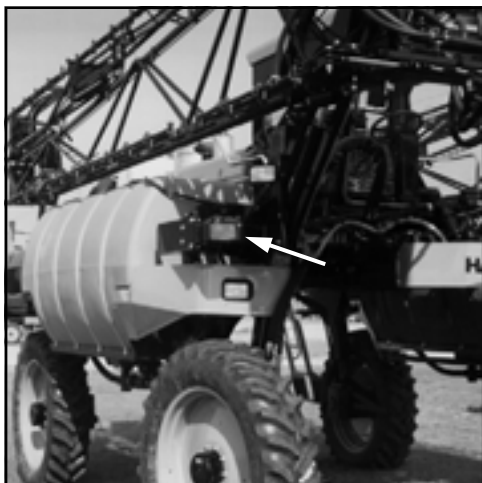
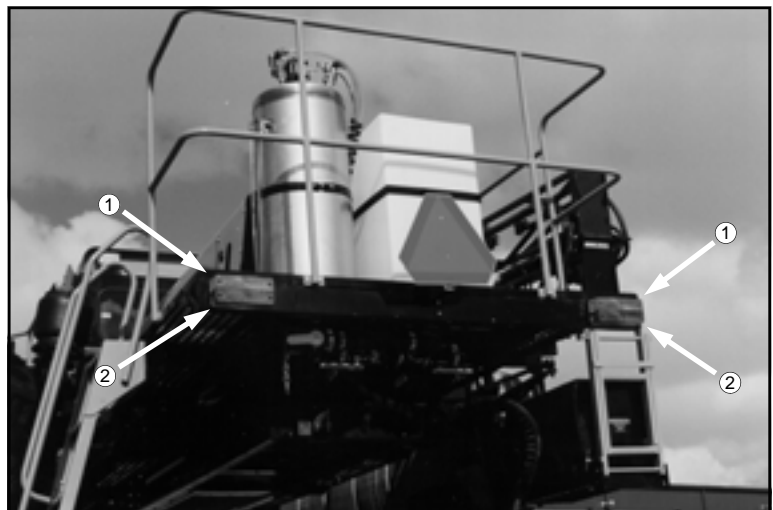

FIG 5.70
FIG 5.71
To activate the front (fig. 5.70) and rear turning signals (fig. 5.71, item 2), move the turn signal lever (fig. 5.68) up to turn right and down to turn left. Steering column-mounted turn signal indicators will correspondingly flash when either side of the turn signals is activated. The turn signal lever is not a self-centering switch; you must return it to the "OFF" position by hand after completing your turn.
To activate the flashing hazard/warning lights (fig. 5.70 & 5.71, item 1), depress the "FLASHER" switch to the "ON" position (fig. 5.69). Activate the hazard/warning lights anytime traveling on a public road, day or night, unless prohibited by law.
Activating the highway or field lights (see page 56) will also turn on the "RED" running lights on the rear of the machine (fig. 5.71, item 2).